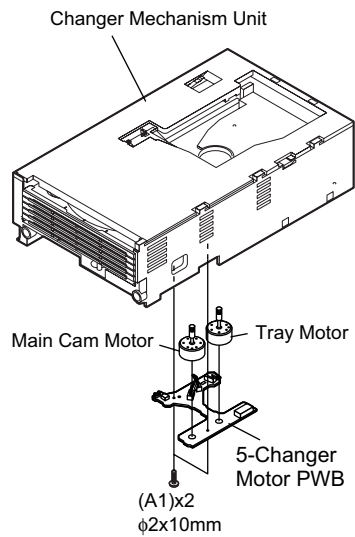

Figure 6
3.2. How to Remove the tray motor/main cam motor/5-Changer Motor PWB (See Fig. 6)